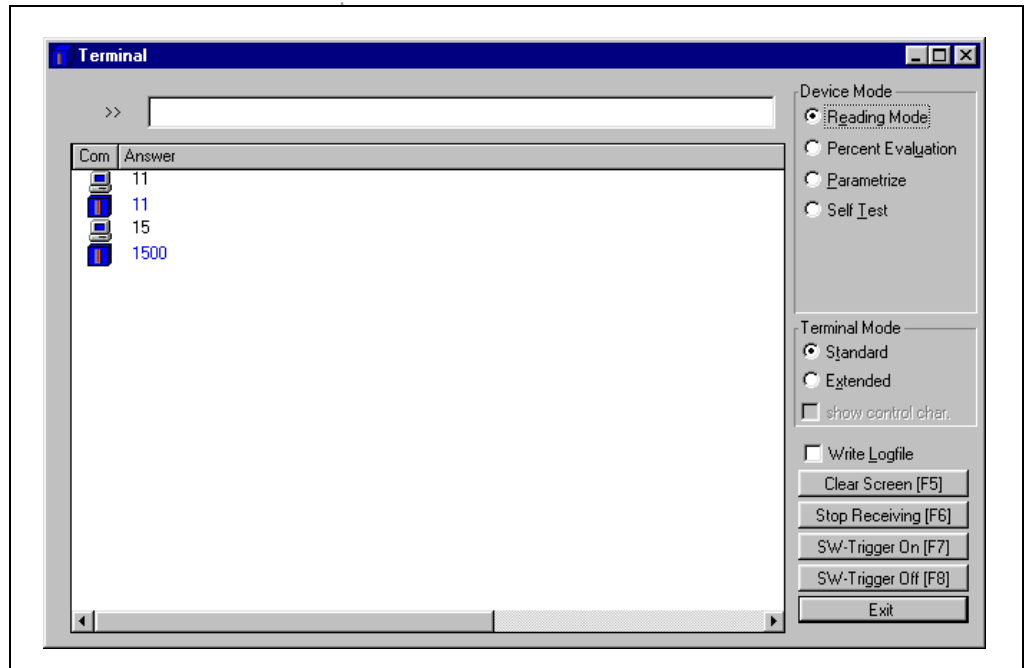

Fig. 6-26: CLV-Setup: Displaying the self-test result in the Terminal Emulator
2. Click SELF TEST under DEVICE MODE. The ICR845-2 cancels the Reading mode and starts the test routine. After a few seconds, the ICR845-2 outputs the encoded test result in the form of a code number (Fig. 6-26).